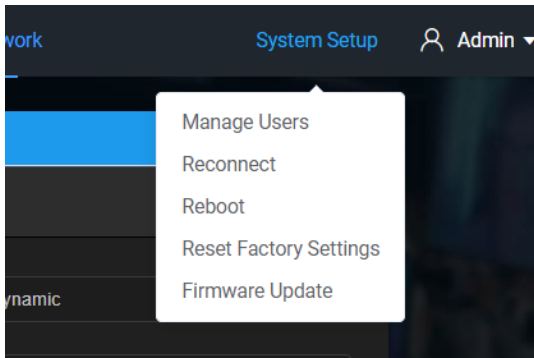

FIGURE 15
*Hint: Should you set a custom password and then forget it; you can reset the device to factory defaults using the Factory Reset process. (Figure 15)*